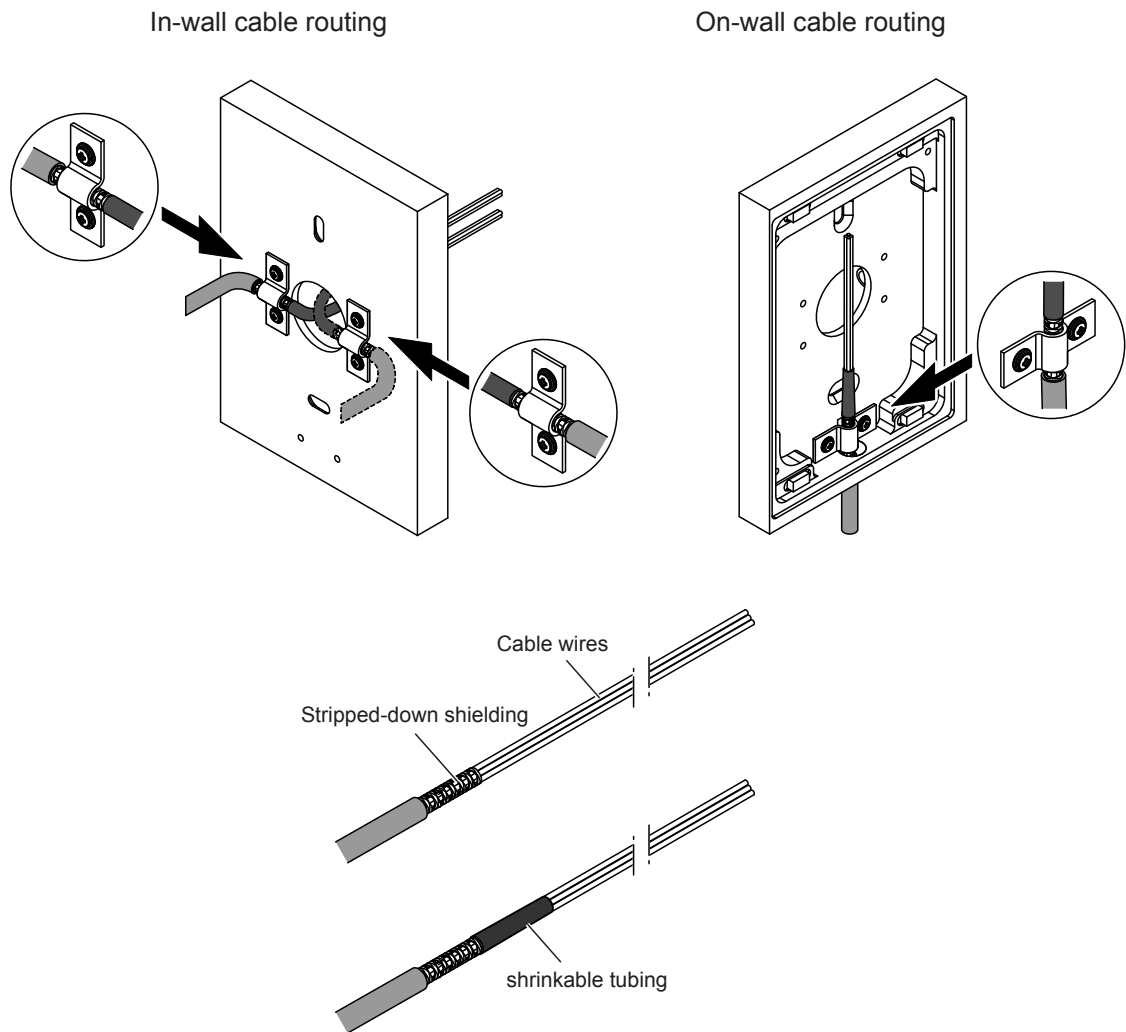

Fig. 15: Fixing the exposed shielding of the CAN BUS cable(s) to the housing with the shielding clamp(s)
- Free the shielding of the CAN BUS cable(s) (shielded four-wire cable, 0.34 mm² per wire) by removing the insulation from the appropriate clamping position to the end of the cable. Remove the exposed shielding to about 2 cm, then fix the end of the remaining shielding with a piece of shrink tubing as shown in Fig. 15 and secure the exposed shielding with the shielding clamp(s) to the housing.